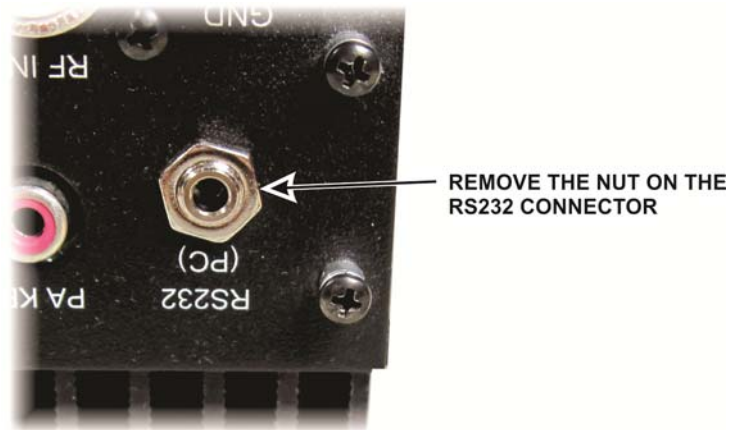

Figure 3. Removing the RS232 Connector Nut.
- On the rear panel, remove the nut holding the RS232 (PC) connector as shown in Figure 3.